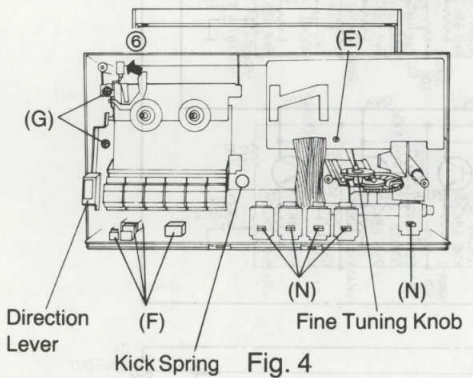

Fig. 4
- Insert the switch knob (N) so that the switch lever and the depression in the switch knob match. (Refer to Fig. 4.)